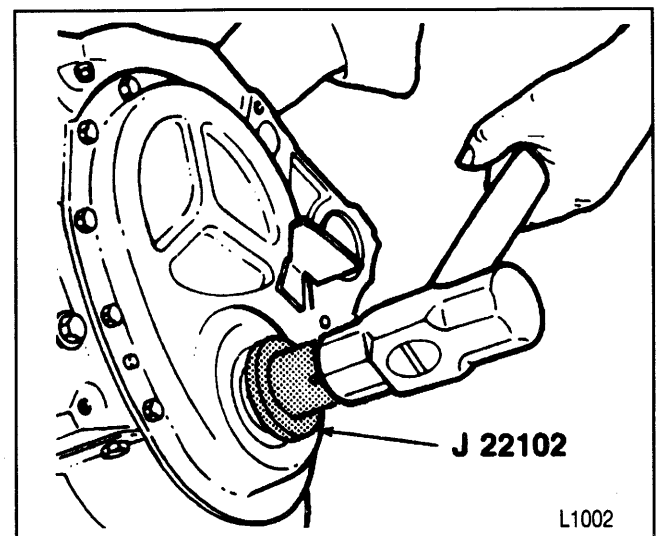

Figure 15—Installing the Crankshaft Front Seal
Install or Connect (Figures 15 and 16)
2. Crankshaft front seal. Use J 22102 (figure 15). The open end of the seal faces inside the engine. Coat the seal lips with engine oil.
Install or Connect (Figures 15 and 17)
1. Crankshaft front seal. Use J 22102 (figure 15). The open end of the seal faces inside the engine. Coat the seal lips with engine oil.
2. Front cover gasket (90) to the front cover (91). Use gasket cement to hold it in place.